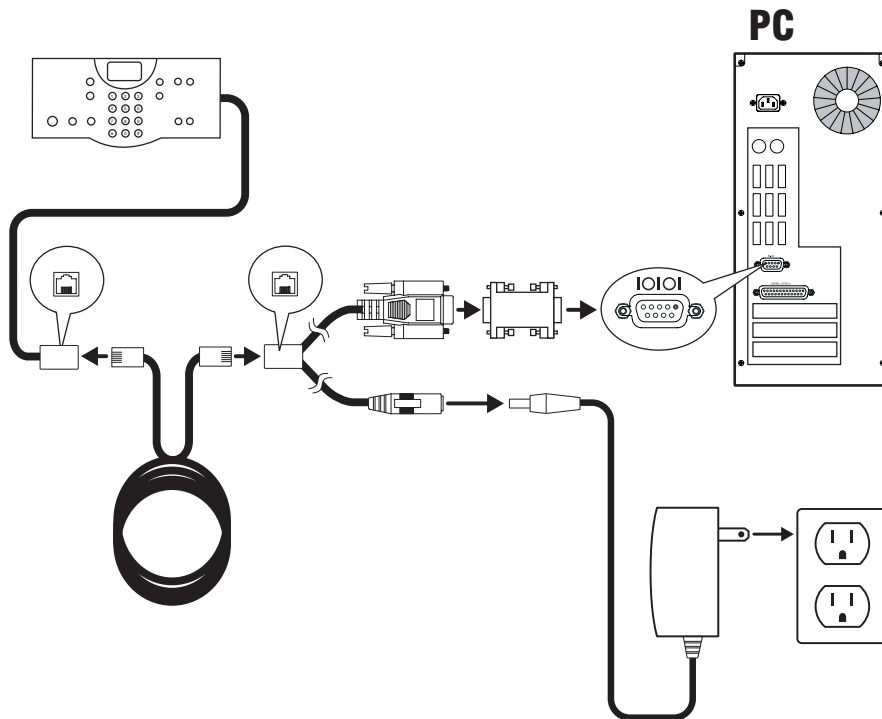

FIGURE 2.1 Connecting the Tabletop Controller to a PC
1. Connect the Tabletop Controller to your PC as shown in Figure 2.1. With the Tabletop Controller connected to your PC, you can launch the Controller Builder application in order to customize the controller to your XAP system.